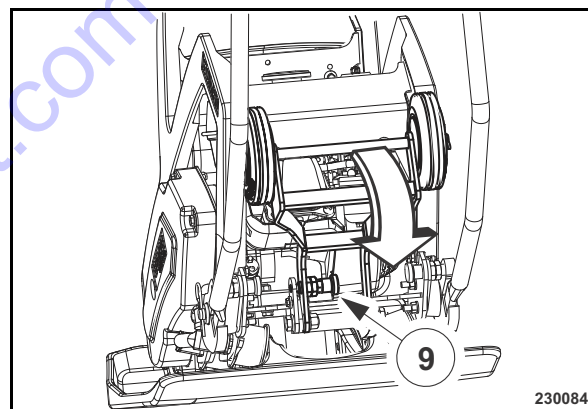

Fig. 36
- Pull out and turn the locking bolt (9) (Fig. 36).